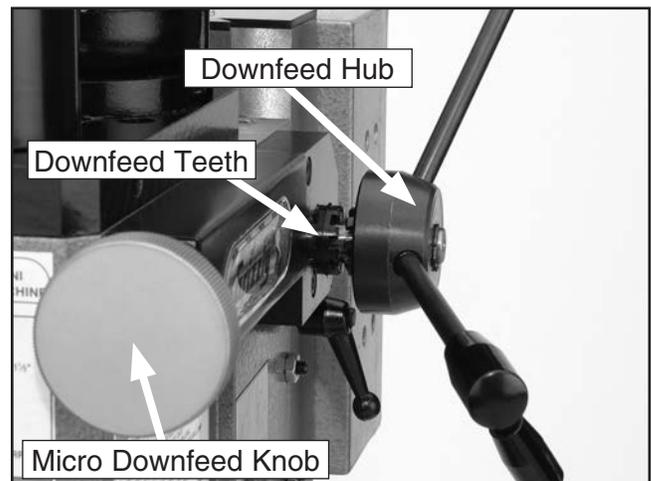

Figure 13. Downfeed handle.
2. Pull the downfeed handle hub out to disengage the teeth as shown in **Figure 13**.